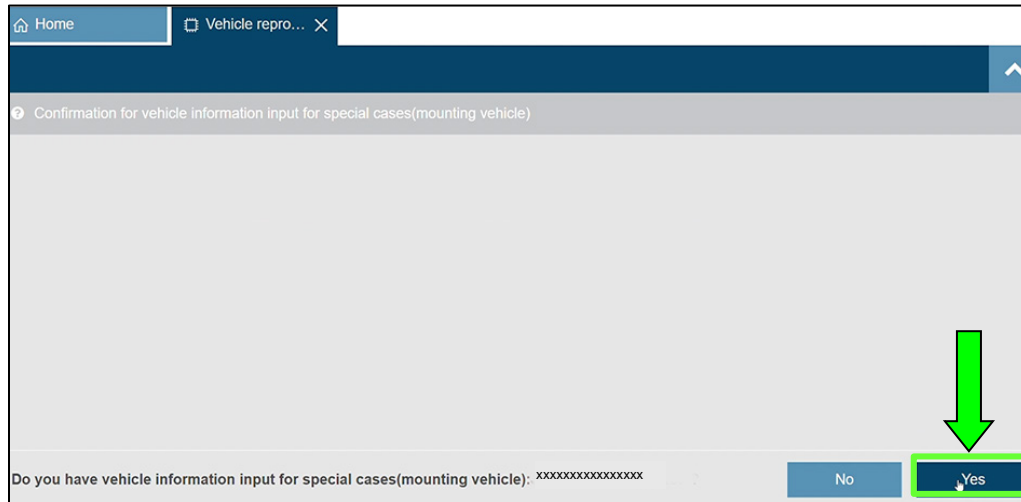

Figure 11
- When the screen shown in Figure 11 is displayed, select **Yes**.